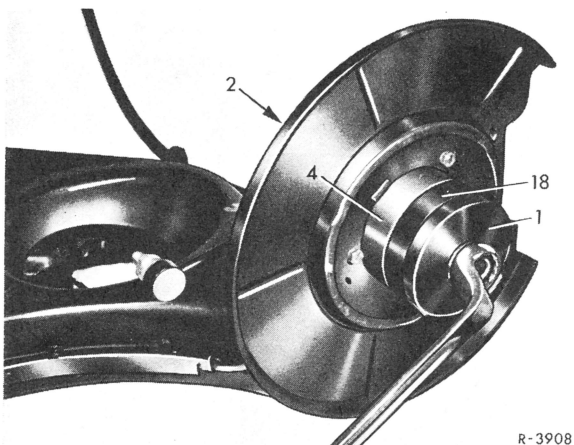

Fig. 16
**15** Coat seat for outer sealing ring (18) on wheel carrier with sealing compound and install new sealing ring with installing tool (Fig. 16).